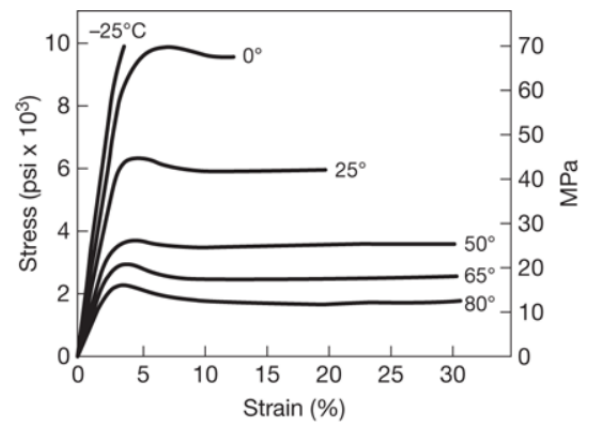

Figure 10.9
**10.87 Calculate the areas under the stress–strain curve (toughness) for the material in Fig. 10.9, plot them as a function of temperature, and describe your observations.**
**10.88** Note in Fig. 10.9 that, as expected, the elastic modulus of the polymer decreases as temperature increases. Using the stress-strain curves in the figure, make a plot of the modulus of elasticity versus temperature.